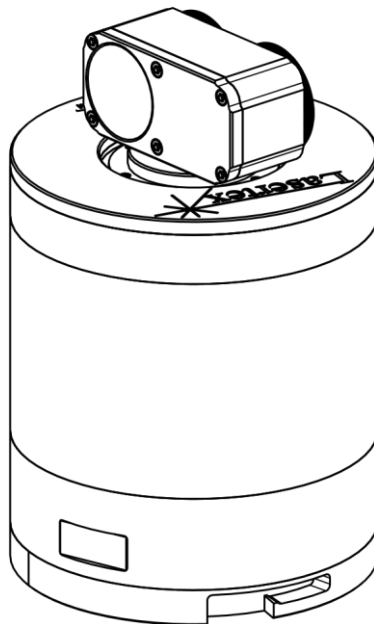

FIG.14.9. ROTARY SYSTEM TURNED INTO THE ALIGNMENT POSITION
- 2) In the beginning of the alignment procedure, before the IK1 element is used, the rotary unit should be rotated to the alignment position (see Fig. 14.9), i.e. with the mirror facing the laser. The laser head should be aligned (mostly with angular mountings) in such a way that the beam reflected from the mirror returns back to the front of the laser head. This operation forces the laser beam to be perpendicular to the rotation axis.